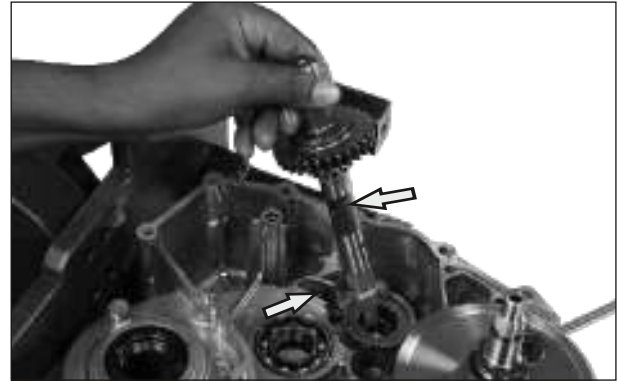

Fig. 3.124
- Place a shim of 1.5mm thickness on the Crankcase L where the Ratchet, hand starter is assembled. After placing the ratchet hand starter, insert the shaft hand starter on the LH through ratchet hand start. Ensure proper seating of spring ratchet hand start on Crankcase L. (Fig. 3.124)